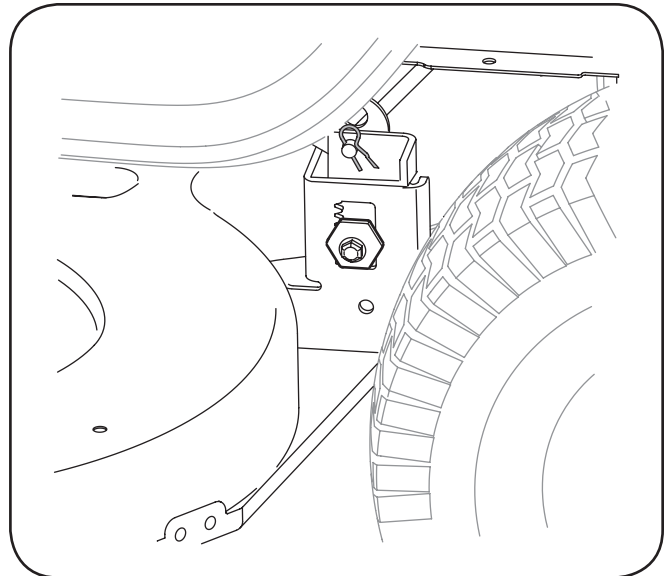

Figure 7-2
5. On 38" Decks: Looking at the cutting deck from the left side of the tractor, locate the bow-tie pin that secures the deck support rod on the rear left side of the deck. See Fig. 7-2. Remove the bow-tie pin that secures the deck support rod, and carefully remove the deck support from the deck lift arm.